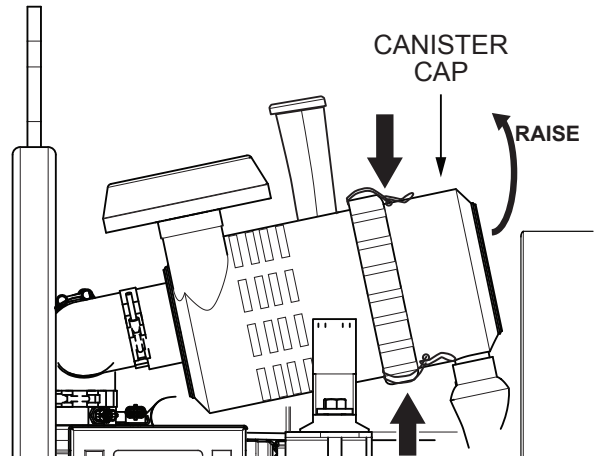

Figure 35. Raising The Main Canister
3. Raise the main canister, unlatch the three end fasteners and remove the canister cap (Figure 35).